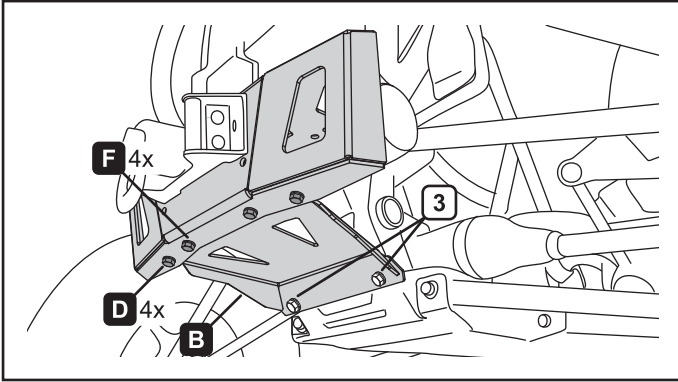

Figure 8.
7. Install the large support bracket (B) with bolts (3) removed in step 1, bolts (D), washers (E, F) and nuts (G) as shown in figure 8.